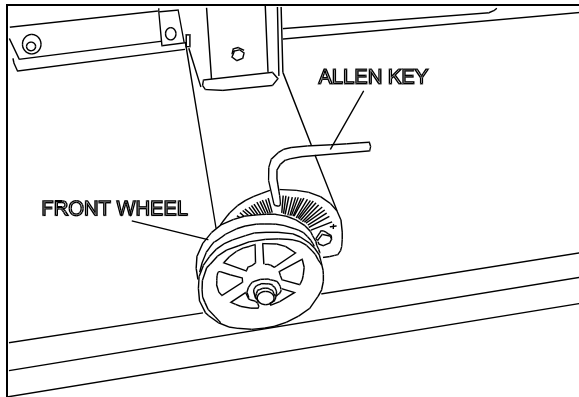

FIGURE 39: ADJUSTING HOOPY 100 LEVEL 06498
6. Using an Allen key on the front wheel, level Hoopy 100 aligner until spirit level bubble is centered (Fig. 39 and 40).